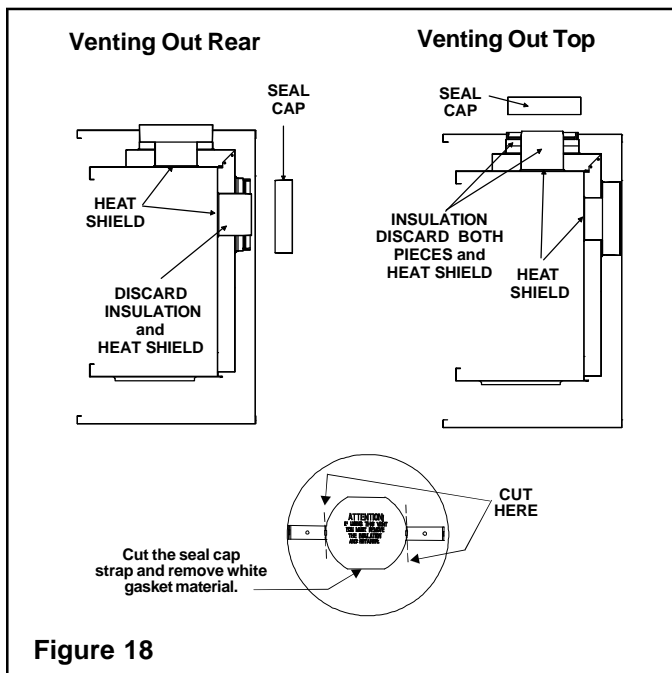

Figure 18
Remove the installed rear seal cap from the rear starting collars by cutting the strap at each end. (see Figure 18). Follow the vent configuration tables accordingly.
**WARNING: THE TOP HEAT SHIELD (INSIDE THE FIREBOX) MUST REMAIN ATTACHED IF THE VENT SYSTEM IS ATTACHED TO THE REAR STARTING COLLARS. SEE FIGURE 18.**
Remove the top vent collar seal cap and two pieces of insulation inside the top two starting collars (See Figure 18).